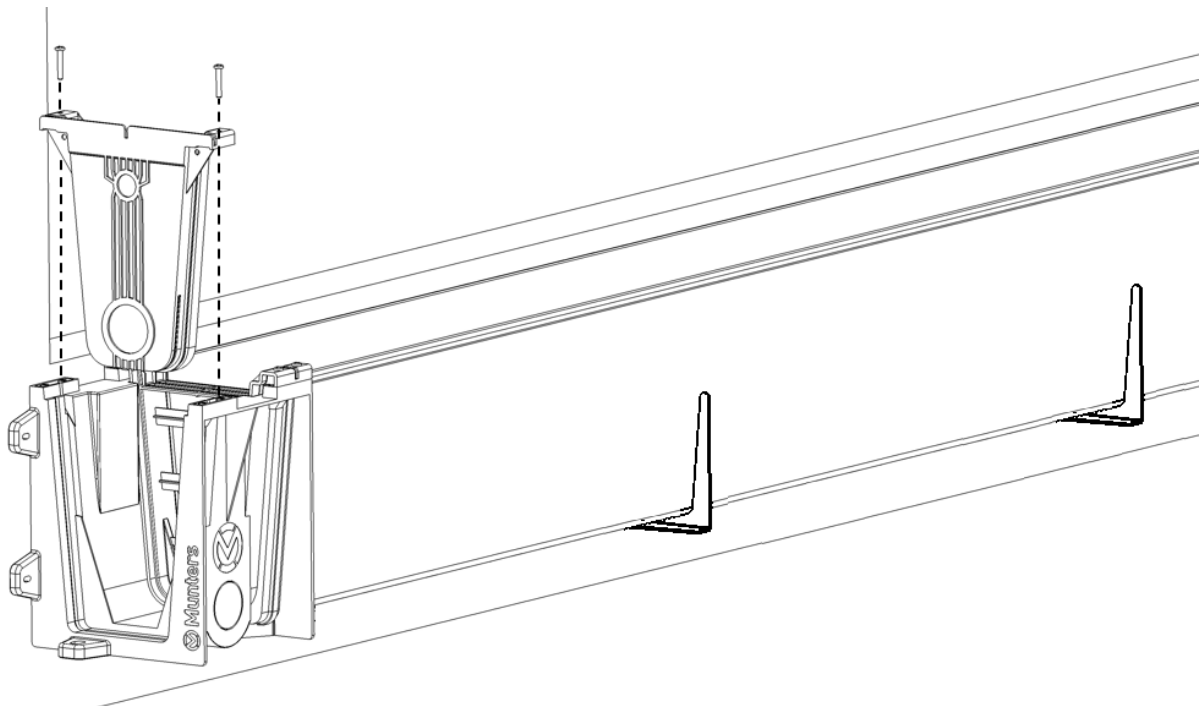

Figure 38
Close the left side of the system installing the Bottom Gutter End Cover [ref. 18] and fixing it to the Supply Unit Connection Bracket by means of (2 pcs) Screws for thermoplastic [ref. 7]. See Figure 38.